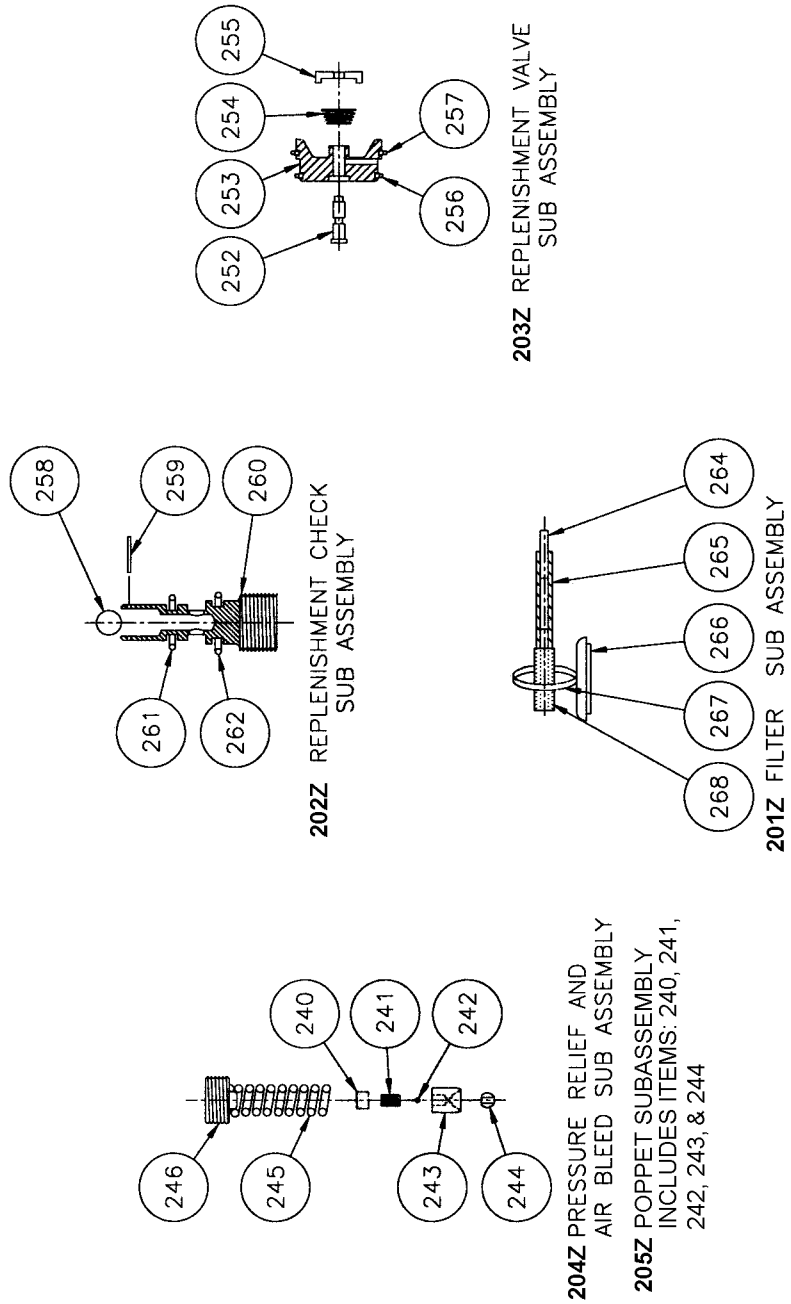

Figure 37. Plunger Body Internal Hydraulic SubAssembly, Size B.
6.17 PLUNGER BODY INTERNAL HYDRAULIC SUBASSEMBLY, SIZE B (FIGURE 37)